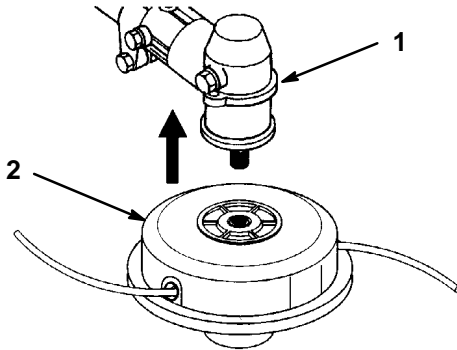

Figure 6
1. Thread the trimmer head into the gearcase, tighten trimmer head firmly by hand (Fig. 6).